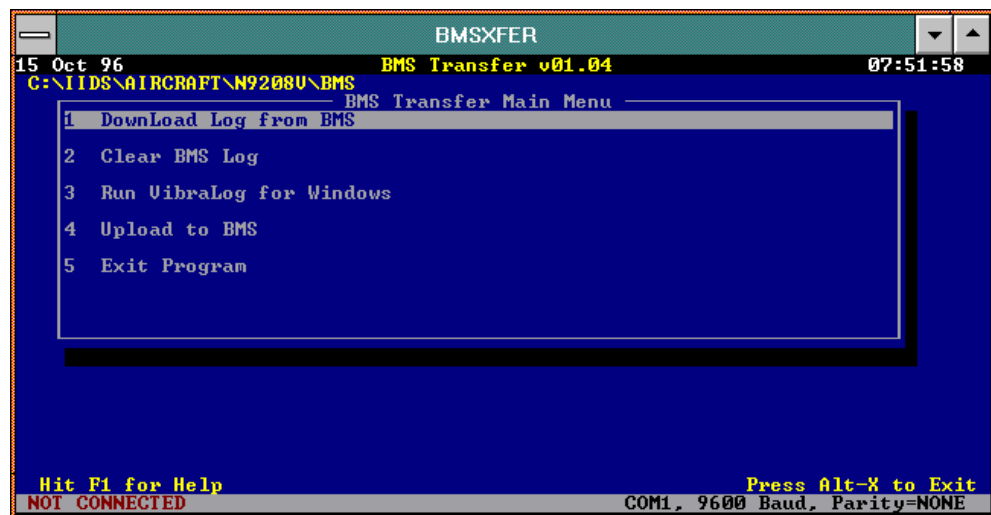

Figure 61. BMS Application Main Menu Screen
The screen will now switch to character mode for the BMS program and the BMS menu will appear (refer to Figure 61).
2. Select **DownLoad Log from BMS** option bar using the (↑ ↓) arrow keys and press the **ENTER** key or, press the number “1” and press **ENTER** (refer to Figure 61).
2. Select **Clear BMS Log** option bar using the ($\uparrow \downarrow$) arrow keys and press the **ENTER** key or pressing the number "2" and press **ENTER** (refer to Figure 61).
2. Select **Upload to BMS** option bar using the (↑ ↓) arrow keys and press the **ENTER** key or pressing the number "4" and press **ENTER**. (refer to Figure 61)